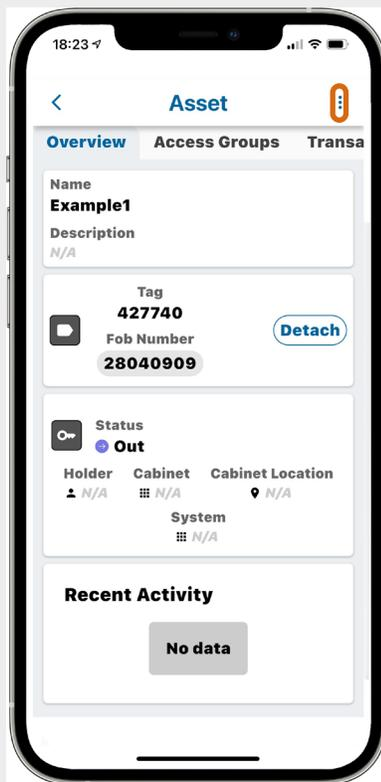

Fig. 84 – Asset details screen with quick action menu indicated
- On the Asset details screen, tap the **quick action menu** , shown in Fig. 84, then select **Edit**.